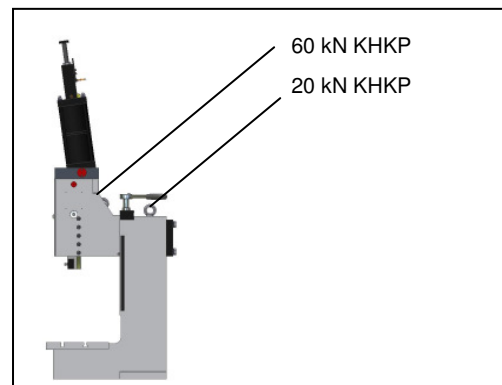

Fig. 2 Eye bolt for transport
- ▶ Use eye bolt for transport (**Fig. 2**). Regarding transport media, mind weight of press incl. control (→ *page 43, Technical data*).